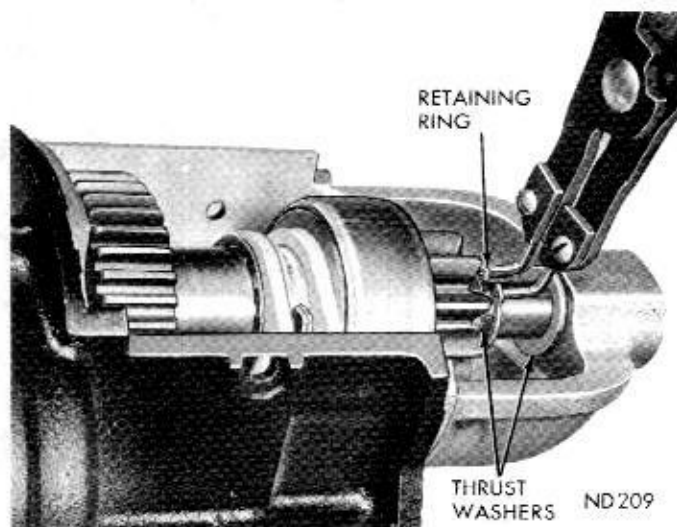

Fig. 7—Removing or Installing Pinion Shaft Retainer Ring
(16) Release retainer ring at front of pinion shaft (Fig. 7). Do not spread retainer ring any greater than outside diameter of pinion shaft otherwise lock ring can be damaged.